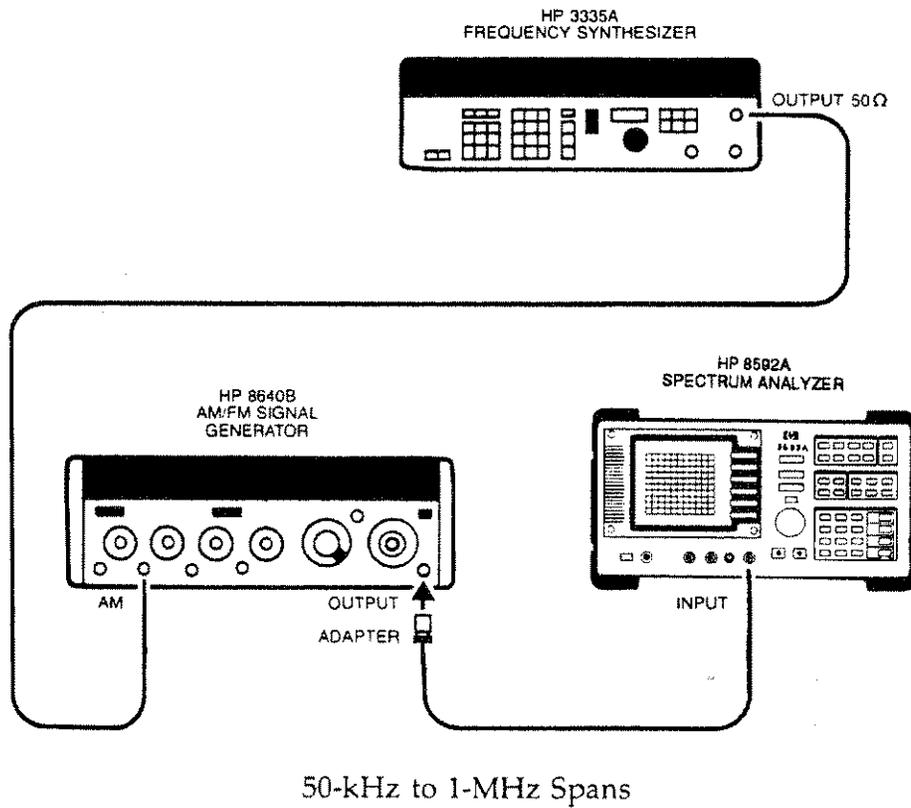

Figure 3-1. Test Setup—Frequency Span Readout Accuracy
1. Connect the equipment as shown in Figure 3-1.